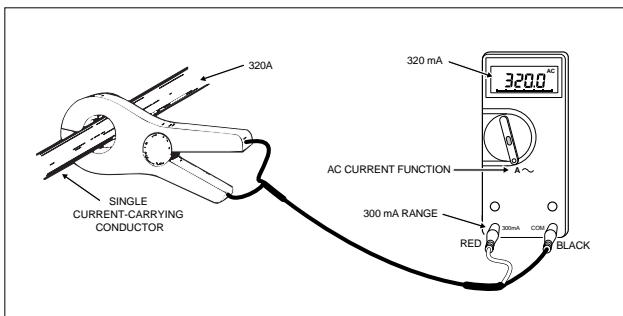

Figure 1. Typical 80I-600A Using a Typical Meter
When the 80i-600A is connected to a compatible current meter and clamped around a single current-carrying conductor, the meter reading will be one 1000th of the actual current in the conductor. For example, a 5-ampere (A) input current will be transformed into a 5 milliampere (mA) output current (see Figure 1).
3. Clamp the probe around the current-carrying conductor to be measured (see Figure 1). Make sure the probe jaws are tightly closed around the conductor.